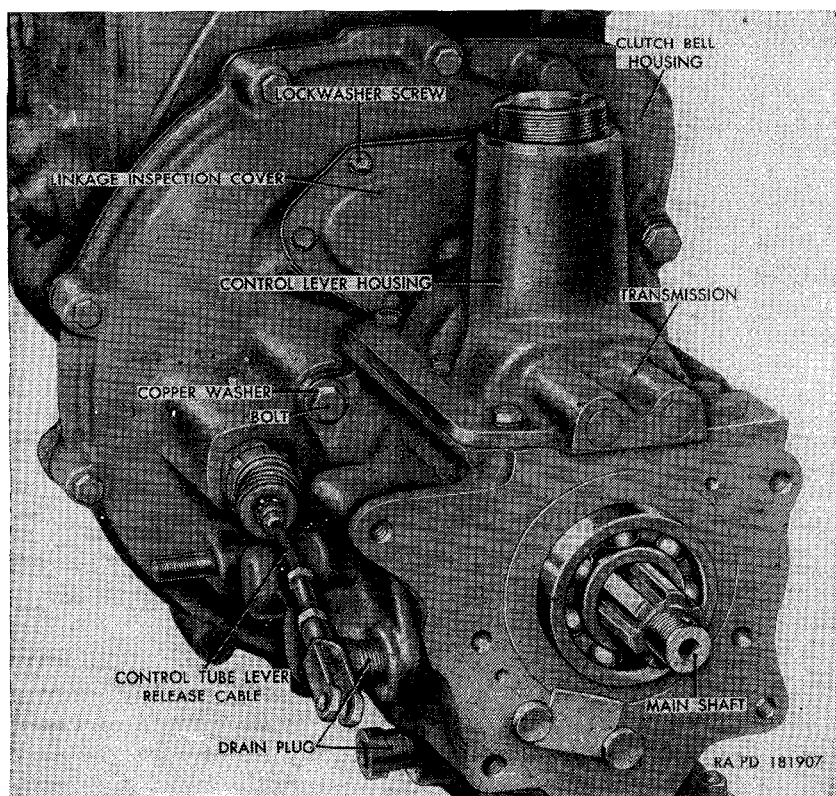
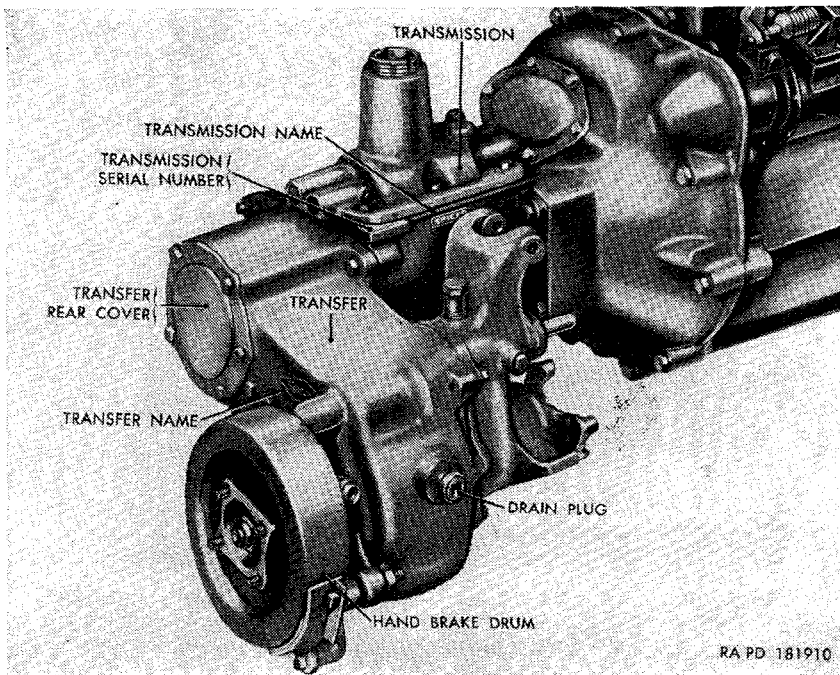

Figure 123. Transmission rear view, transfer removed—power plant removed from vehicle.
Figure 126. Transfer and transmission assemblies installed on engine—power plant removed from vehicle.
a. *Description.* The transmission (fig. 123) is a synchro-mesh, selective-gear-type, with three forward speeds and one reverse. Speed selection is accomplished manually by manipulating the transmission gear shift lever. The lever extends out of the top of the control lever housing into the driver's compartment of the vehicle.
- c. Remove six lockwasher screws securing the linkage inspection covers (fig. 123) to the top of the clutch bell housing. Remove the cover and gasket. Working through the inspection hole, disconnect the control tube lever release cable from the end of the release fork. Disengage the fork from the release bearing carrier and lift the fork out of the clutch compartment. Discard gasket.
- d. While supporting the transmission, remove the four bolts and copper washers (fig. 123) securing the transmission to the clutch bell housing. Pull the transmission straight back until the transmission input shaft is clear of the bell housing.
transmission to the clutch bell housing with four  $\frac{7}{16}$ -inch copper washers and  $\frac{7}{16} \times 1\frac{1}{4}$  bolts (fig. 123). Tighten the bolts evenly.
e. Working through the inspection hole in the top of the bell housing, install the release fork so the fork recess engages the bearing cover ball stud, and with the two large ends of the fork behind the release bearing carrier flanges. Engage the control tube lever release cable ball behind the two projections at the small end of the fork. Coat a new linkage inspection cover gasket with plastic-type liquid cement. Place the gasket and the inspection cover in position on top of the clutch ball housing (fig. 123). Secure cover and gasket to bell housing with six  $\frac{1}{4} \times \frac{1}{2}$  lockwasher screws.
*a. Description.* The transfer is an auxiliary, two-speed gear unit, attached to the rear of the transmission. The transfer transmits power from the transmission to the front and rear differentials through propeller shafts. By manipulation of two transfer gearshift levers (T, fig. 11), additional high and low speed ranges can be selected, and power to the front axle can be connected or disconnected. The hand brake drum (fig. 126) and shoes are mounted on the rear of the transfer. A cover at the rear of the transfer provides access to the interior of the assembly when installing a power takeoff.
- b. Remove the drain plugs from the transmission (fig. 123) and transfer (fig. 126) and permit the lubricant to drain. After draining completely, install the drain plugs.
- c. Remove five bolts and external-teeth lockwashers securing the transfer rear cover (fig. 126) to the transfer case. Remove the cover and rear cover gasket. Discard gasket.
e. Coat a new rear cover gasket with plastic type gasket cement and position gasket and transfer rear cover (fig. 126) on the rear of the transfer case. Secure the cover to the case with five  $\frac{3}{8}$ -inch external-teeth lockwashers and five  $\frac{3}{8}$  x  $\frac{3}{4}$  bolts.